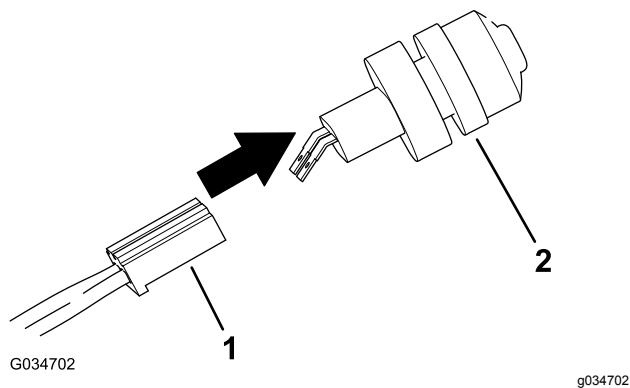

Figure 7
4. Plug the female connector from the main wire harness to the male connector on the horn switch (Figure 7).